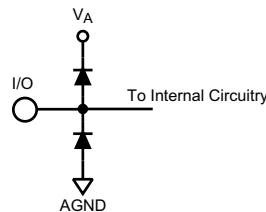

Figure 1.
- (1) The inputs are protected as shown below. Input voltage magnitudes above V_A or below GND will not damage this device, provided current is limited per Note 4 in the Absolute Maximum Ratings table. However, errors in the A/D conversion can occur if the input goes above 2.6V or below GND as described in the Operating Ratings section, see Figure 1.
- (2) With a full scale differential input of $2V_{P,P}$, the 14-bit LSB is $122.1\text{ }\mu\text{V}$.
- (3) Typical figures are at $T_A = 25^\circ\text{C}$ and represent most likely parametric norms at the time of product characterization. The typical specifications are not guaranteed.
- (4) This parameter is specified in units of dBFS - indicating the value that would be attained with a full-scale input signal.
- (2) With a full scale differential input of $2V_{P-P}$, the 14-bit LSB is 122.1 μV .
- (4) This parameter is guaranteed by design and/or characterization and is not tested in production.